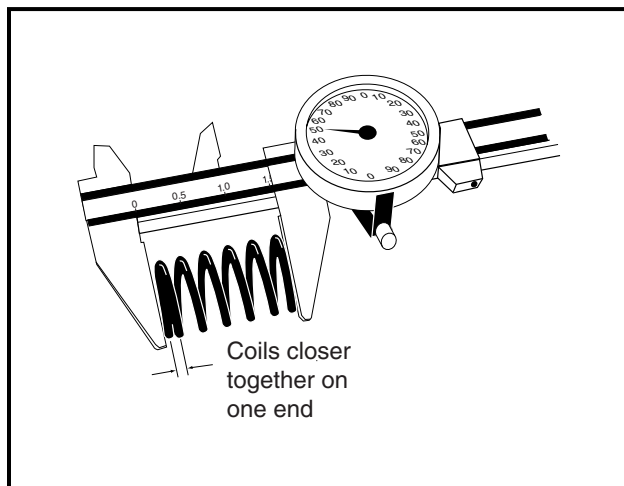

Figure 3-27 Measure Valve Spring Length
1. Inspect the valve springs for pitting, cracks, corrosion and burrs. Replace the springs if necessary (**Figure 3-27, Page 3-15**).
NOTE: Valve spring coils are closer together (have a narrower pitch) at one end of the spring than at the other. Install springs with the narrow pitch ends down on the spring seats (**Figure 3-27, Page 3-15**).